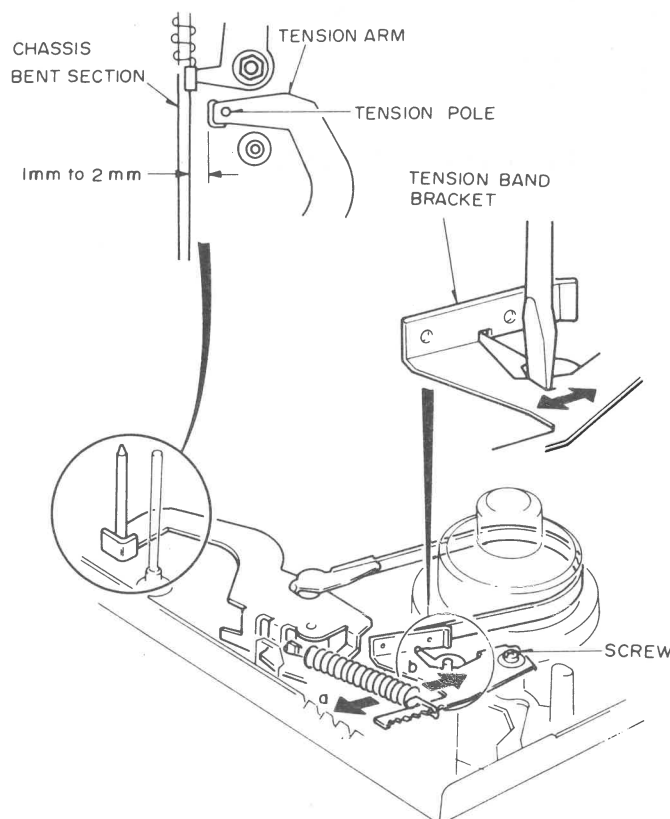

Fig. 3 Tension Arm Position
### Tension Arm Position (Fig. 3)
### Back Tension (Fig. 3, 4)
4. If the reading is 39 or higher, adjust the tension arm spring in direction "a" (Fig. 3) and if the reading is 31 (21) or lower, adjust the tension arm in direction "b". Adjust the back tension for nominal reading of 35 (30).